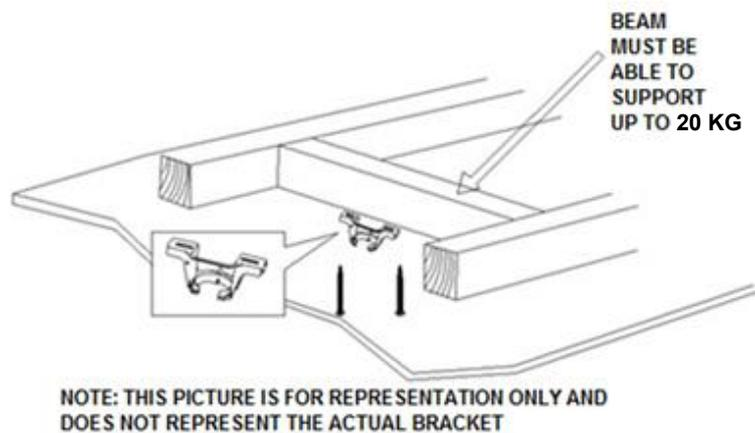

Fig. 2
- Install the hanging bracket to the ceiling joist or structure that is capable of carrying a load of at least 20 kg, with two long screws provided. Ensure at least 30mm of the screw is threaded into the support. (Fig. 2)